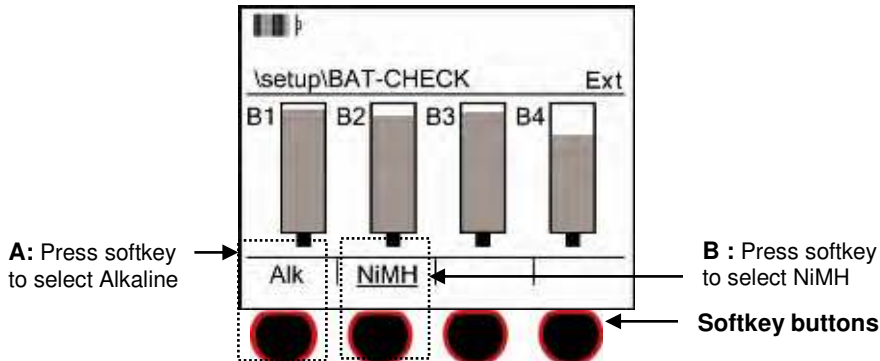

Figure 2-7: Selecting battery type in battery check screen
4. Press the softkey that corresponds with the installed battery type (See “A” or “B” in Figure 2-7 for selection). The label above the softkey is underlined to indicate the current selection.